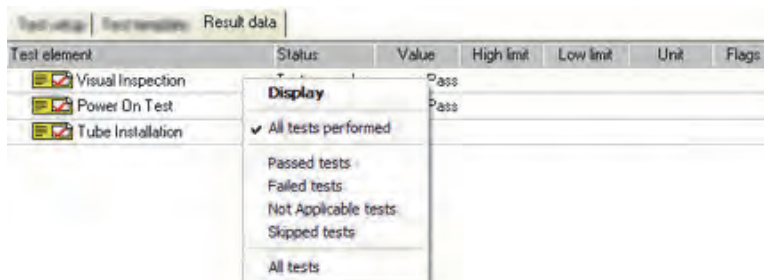

Figure 3-71. Test Results Display Menu
1. Right-click the test results list to bring up the test results **Display** menu as shown in Figure 3-71.